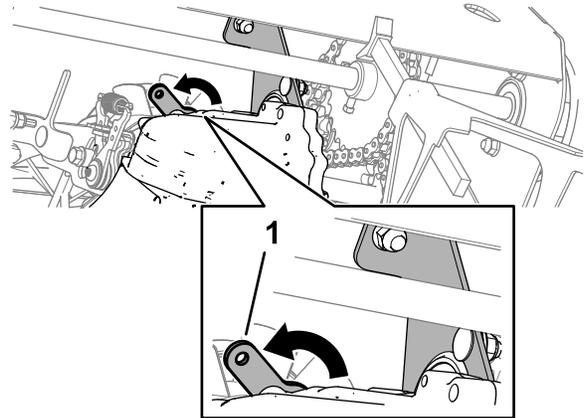

Figure 72
6. Lift the front of the machine, release the bypass lever from the shaft-support bracket (Figure 72), and lower the machine.